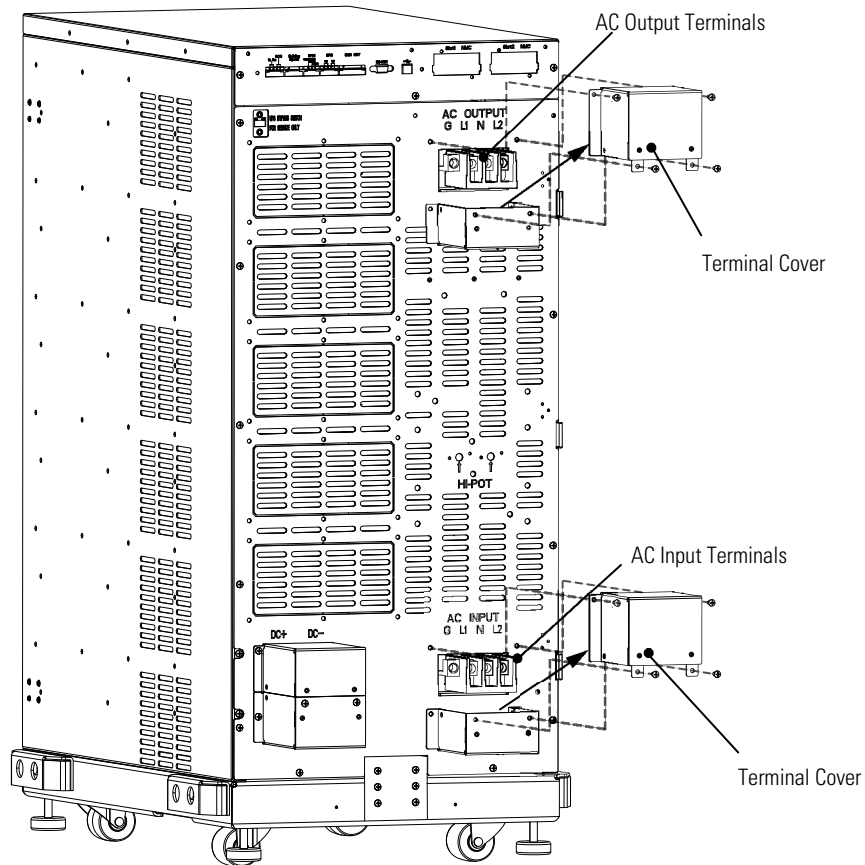

Figure 32. UPS Power Terminals
1. Install the AC terminal upper covers supplied in the accessory kit of the UPS. (See Figure 32).